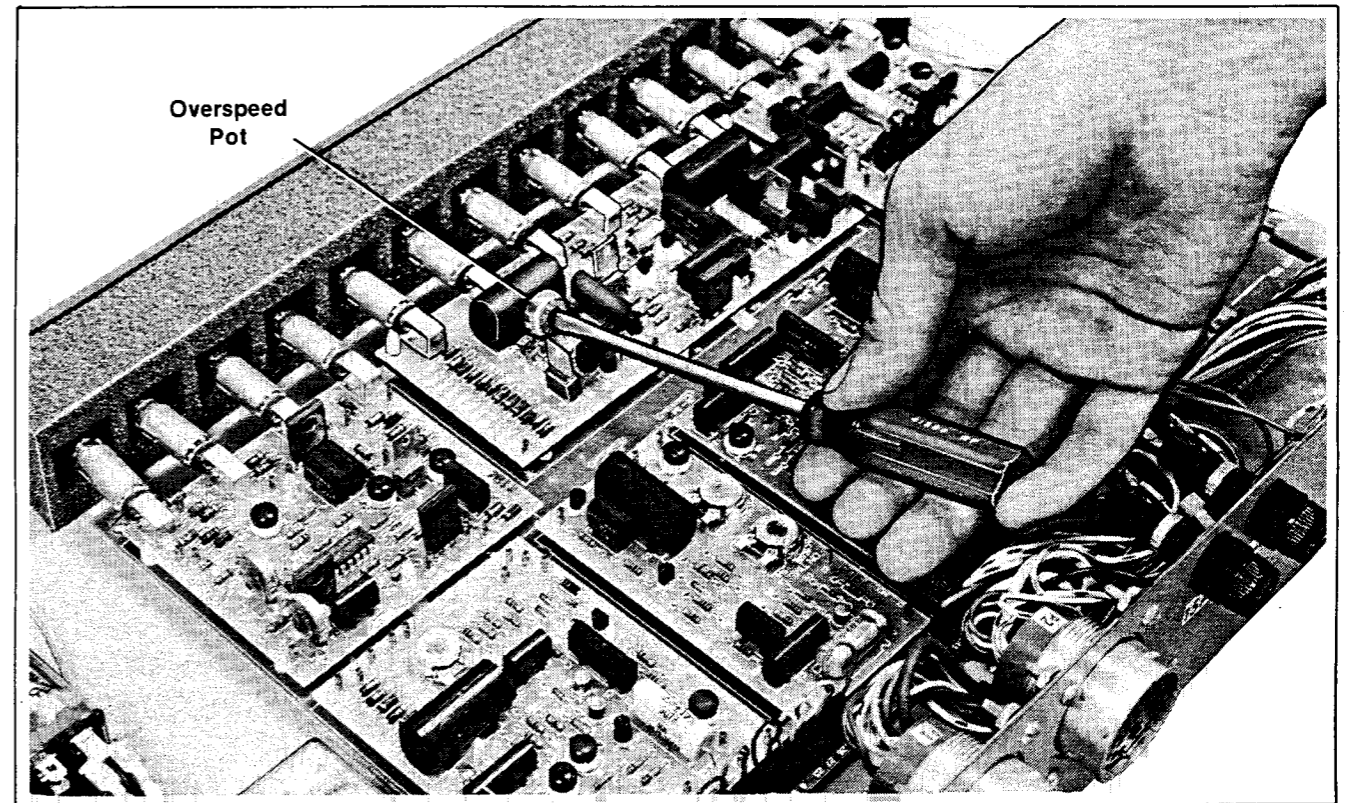

Figure 3-12. Overspeed Pot Adjustment
- Adjust OVERSPEED pot on controller's lamp driver board (Figure 3-12) slowly turn pot clockwise until engine shuts down (at 70 Hz for 60 Hz sets, or 60 Hz for 50 Hz sets).